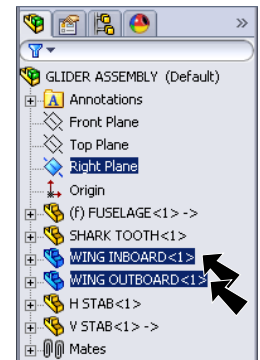

Fig. 94
Step 2. **Ctrl click** the **Right Plane** , **WING INBOARD** and **WING OUTBOARD** in the Feature Manager to select all three, **Fig. 94**. To **Ctrl click**, click **Right Plane** , hold down the **Ctrl** key and click both **WINGS**.